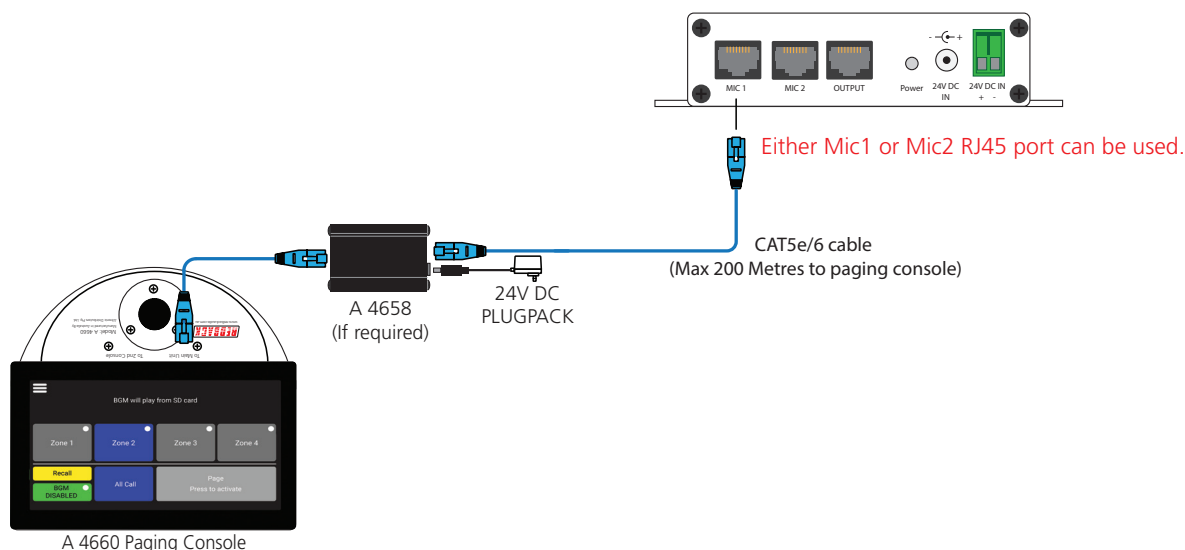
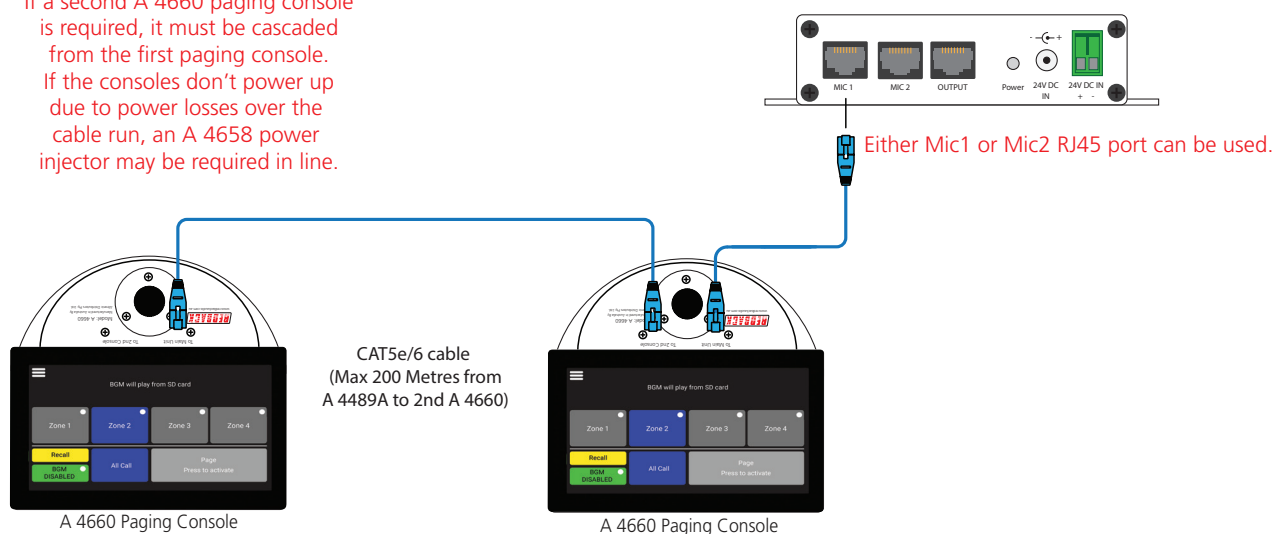

Fig 7
Fig 8 Cascading A 4660 paging consoles.
*Note: External power injectors (Redback ® A 4658) may be required if power problems are encountered from long cable runs. This is shown connected to the console in the example of figure 7.*
If power losses are encountered from long cable runs, an A 4658 power injector may be required. The console is connected to the A 4469 via standard Cat5e/6 cabling as shown in figure 7.
When connecting two paging consoles to the amplifier they must be cascaded and connected to only one of the two RJ45 ports on the rear of the A 4469, as shown in figure 8. Standard Cat5e/6 cabling is used and the maximum total cable run length to the second paging console is 200m. If an A 4658 power injector is required, it can be connected before the first paging console as shown in figure 7, or in line before the second paging console.